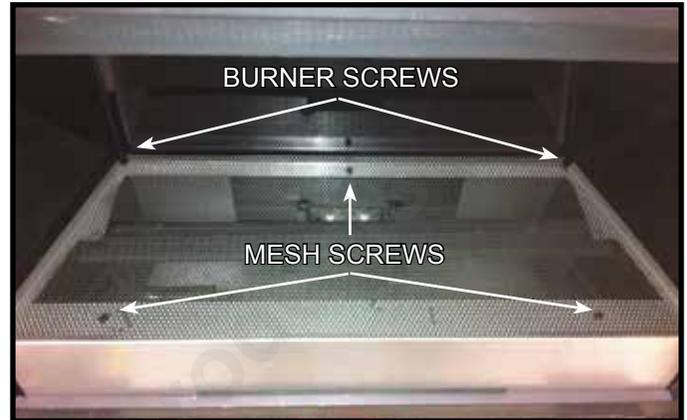

Figure 11.1 Cover Tray Removal
**Note:** This appliance does include a manual gas shutoff valve that is located in the valve compartment. This manual gas shutoff valve is accessible for service by removing the base pan, burner assembly and valve plate. See Figure 11.1. The lower access cover panel is removable if finishing material has not been previously installed.